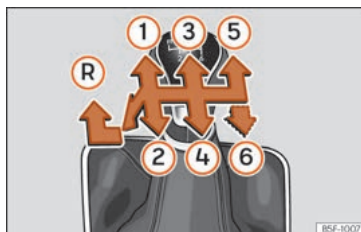

Fig. 55 Gear shift pattern of a 5 or 6-speed manual gearbox.
The position of the gears is indicated on the gearbox lever >>> Fig. 55.
go and then forwards to select reverse >>> Fig. 55 (R).